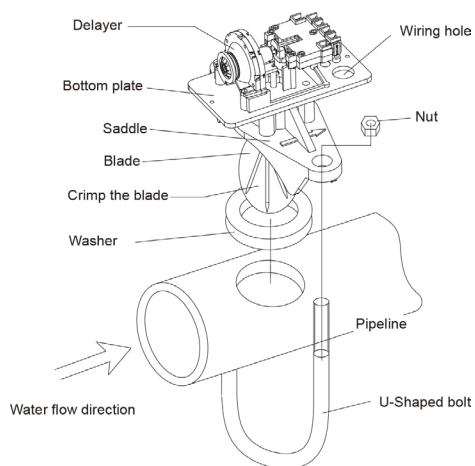

Figure 2 Installation Drawing
- Roll up the blade into a small size and put it into the pipeline, install the U-shaped bolt and fasten it up with two fastening nuts, and the specific installation drawing is shown in Figure 2